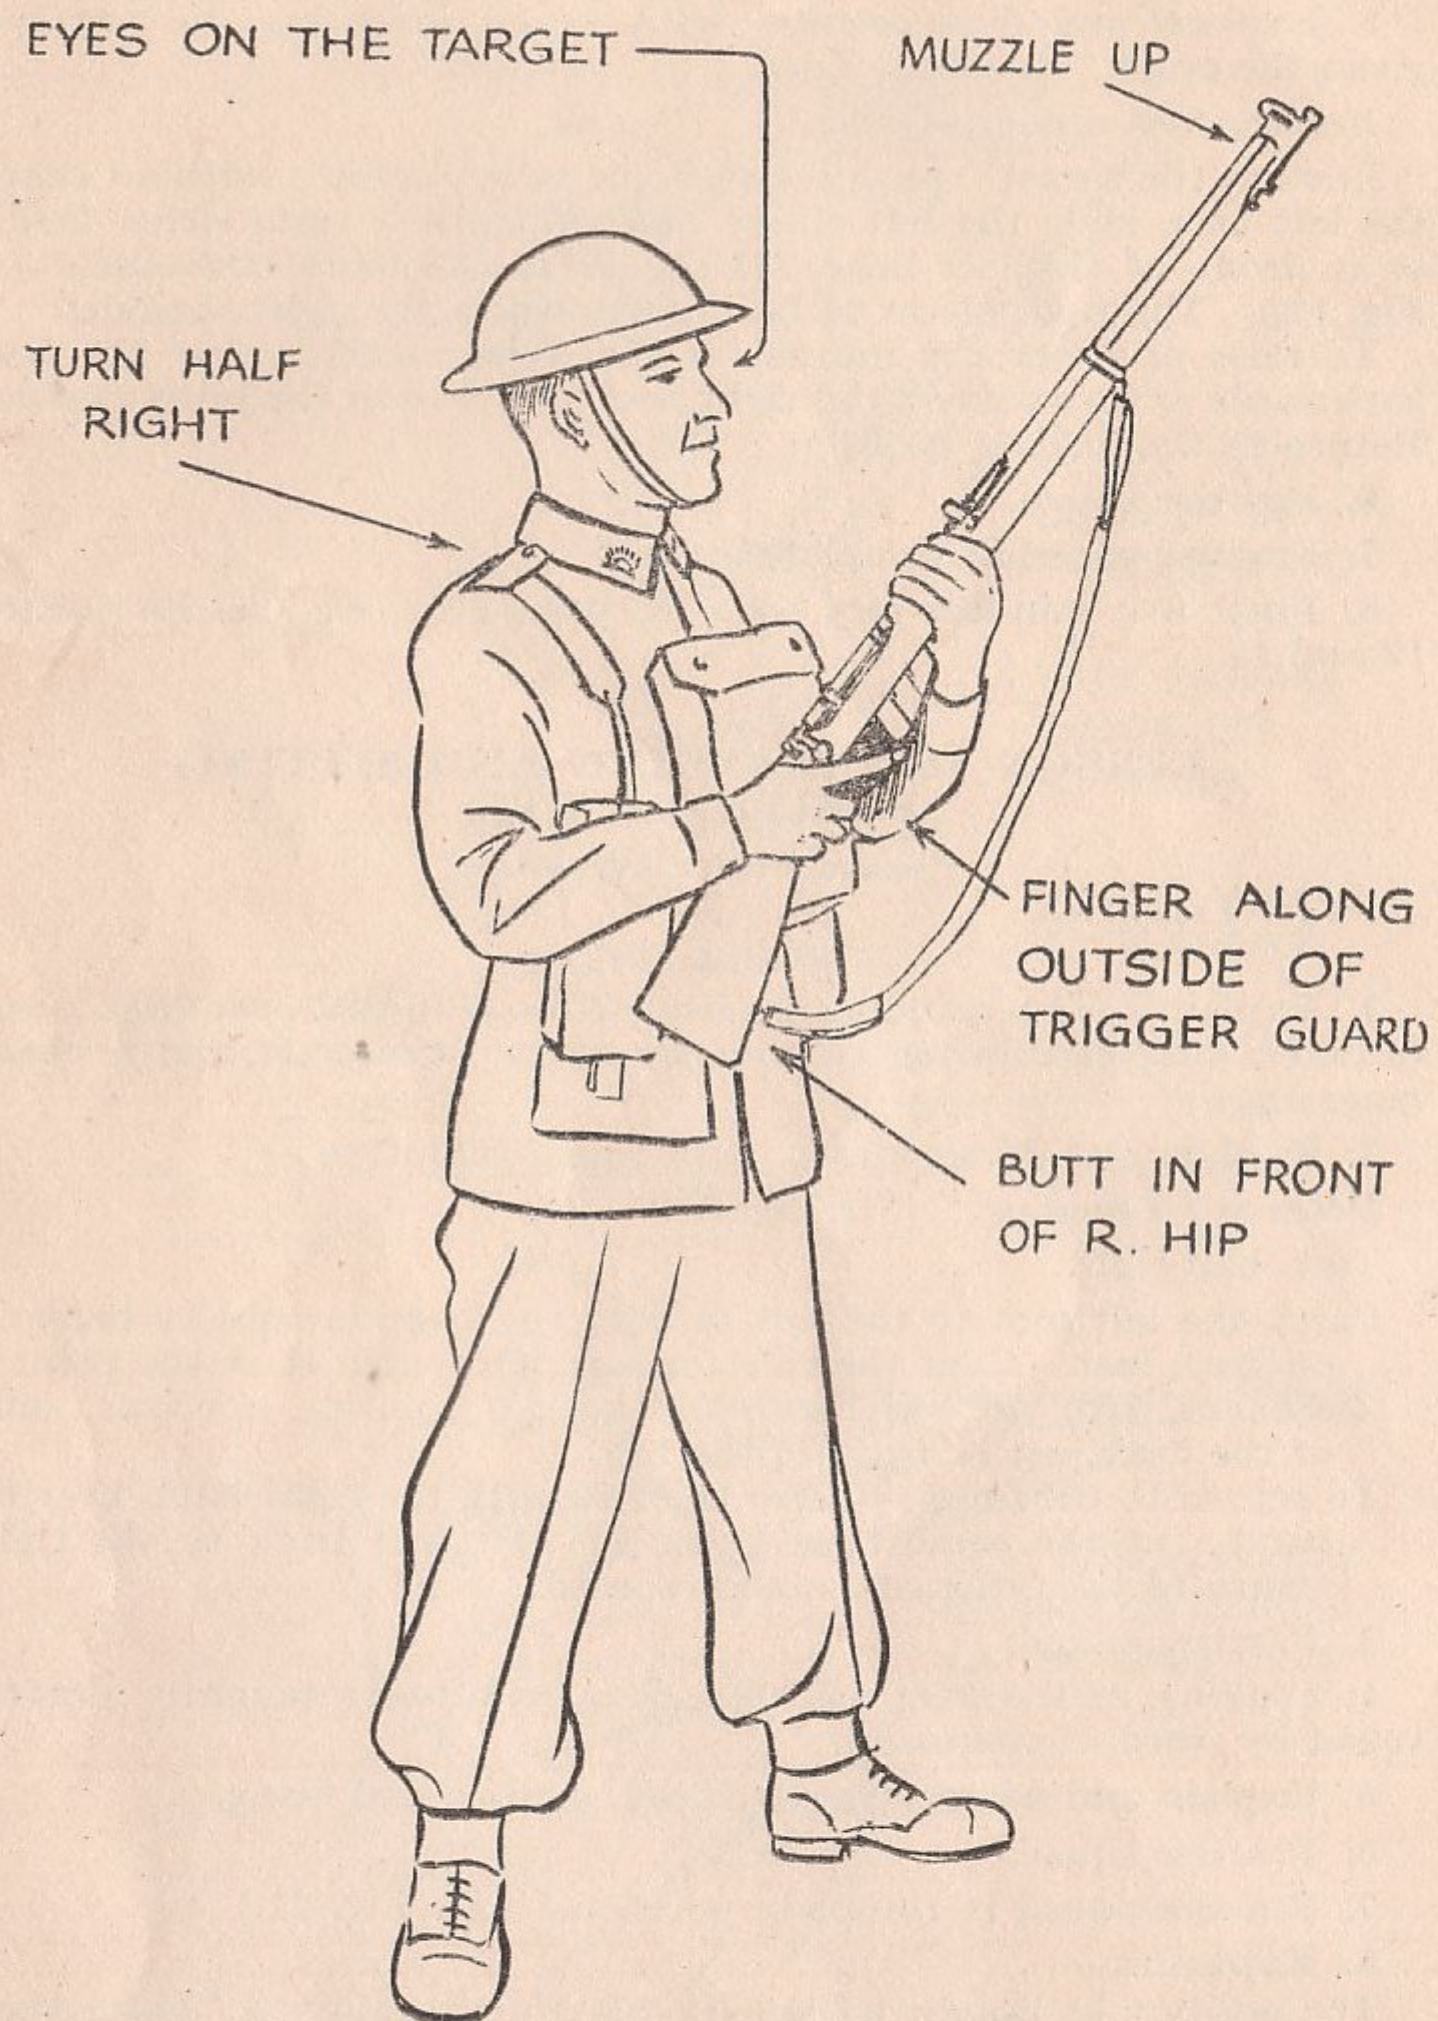

Fig. 20
*Position for loading.* (See Fig. 20.)